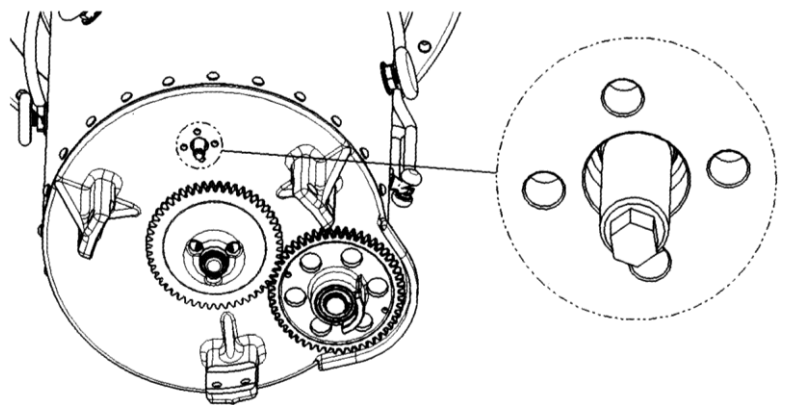

Figure 41 Loose the oil drain stopper
- 1) Turn clockwise to loosen the oil drain stopper between the oil compartment bottom and the tap selector. (Figure 41)